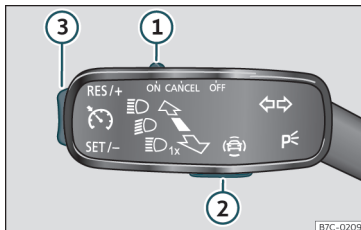

Fig. 44 Left of the steering column: CCS switch and controls.
- Switching on the CCS: Move switch »» **Fig. 44 ①** to **ON**. The system is on. If no speed has been programmed, the system will not control it.
- Activate the CCS: Press button »» **Fig. 44 ②** in the **SET/-** area. The current speed is memorised and controlled.
- Temporarily switching off the CCS: Move switch »» **Fig. 44 ①** to **CANCEL** or push the brake. The cruise control system is switched off temporarily.
- Reactivating the CCS: Press button »» **Fig. 44 ②** in **RES/+**. The memorised speed is saved and controlled again.
- Increasing stored speed during CCS regulation: press button **②** in **RES/+**. The vehicle accelerates until the new stored speed.
- Reducing stored speed during CCS regulation: press button **②** in **SET/-** to lower the speed by 1 km/h (1 mph). Speed is reduced until reaching the new stored speed.
- Switching off the CCS: Move switch »» **Fig. 44 ①** to **OFF**. The system is disconnected and the memorised speed is deleted.